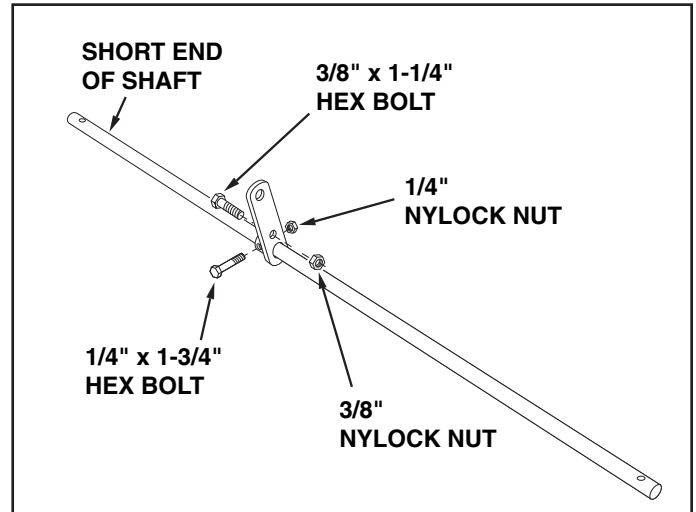
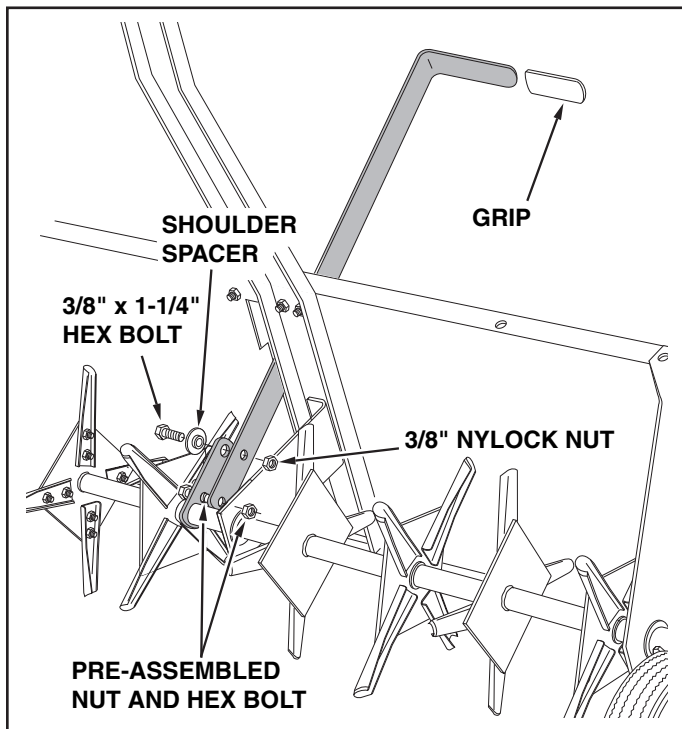

FIGURE 2
FIGURE 11
3. Assemble a wheel bracket to the middle hole in the shaft so that the hub of the bracket faces the short end of the shaft. Fasten the bracket to the shaft using a 1/4" x 1-3/4" hex bolt and a 1/4" nylock nut. **Tighten.** See figure 2.
4. Pre-assemble a 3/8" x 1-1/4" hex bolt and a 3/8" nylock nut to the smaller hole in the wheel bracket. Insert the bolt from the hub side of the bracket. **Do not tighten till step 18.** See figure 2.
16. Place the lift handle through the slot in the tray. Fasten the lift handle to the smaller, inner hole in the middle wheel bracket using the bolt and nut which you pre-assembled earlier (figure 2). Fasten the lift handle to the larger, outer hole in the wheel bracket using a 3/8" x 1-1/4" hex bolt, the shoulder spacer, and a 3/8" nylock nut. **Tighten both nylock nuts.** See figure 11.
17. Push the grip onto the lift handle. See figure 11.